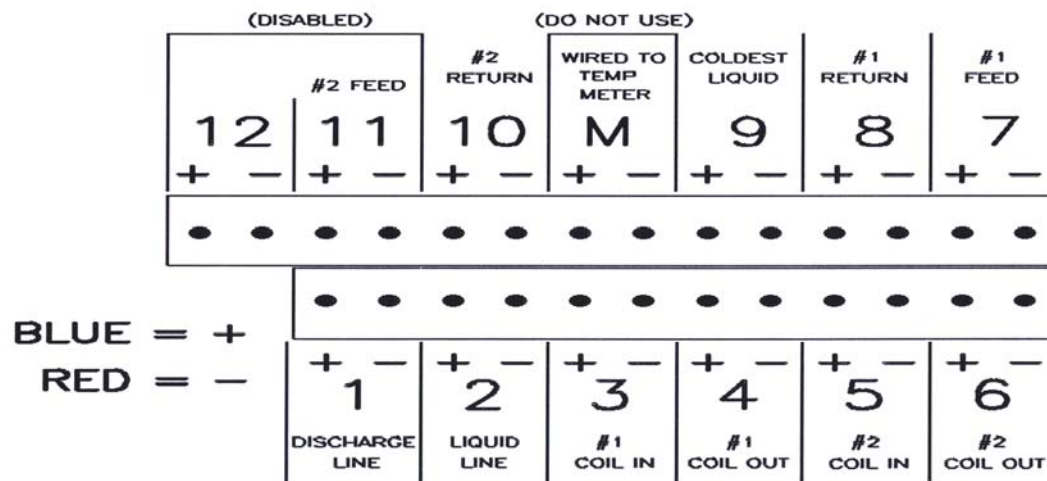

Figure 4-11: Thermocouple (TC) positions identification
2. Attach the thermocouple wires to their designated locations. The blue-insulated copper wire must be attached to the positive (+) terminal. The red-insulated constantan wire must be attached to the negative (-) terminal. (See Figure 4-11.)